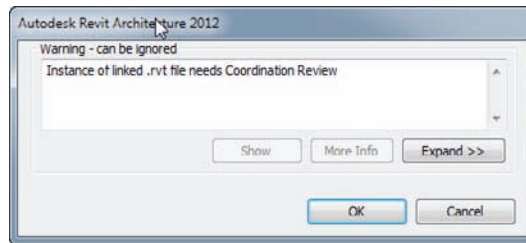

FIGURE 20.13 Coordination alert
5. Open the architectural model. You may see the warning shown in Figure 20.13.